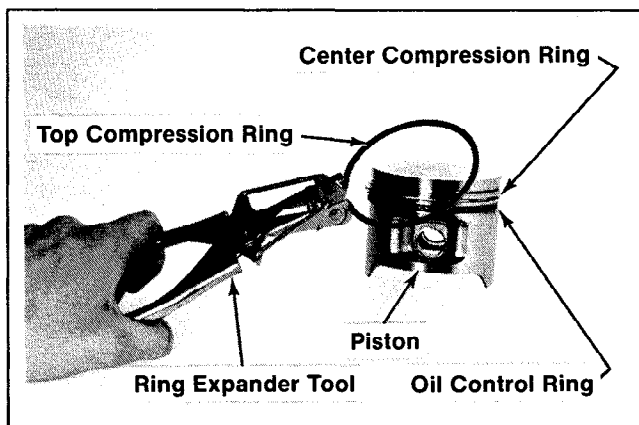

Figure 10-7. Removing Piston Rings.
1. Remove the top and center compression rings and the oil control ring spacer using a ring expander tool. Refer to Figure 10-7.